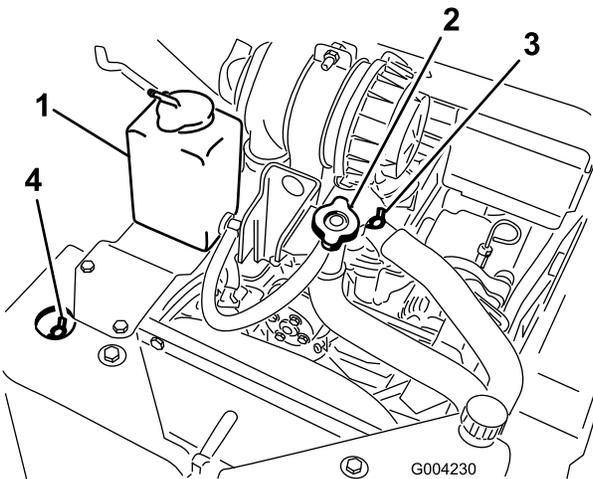

Figure 15
- A. Remove the coolant fill cap (Figure 15).
- B. Open the front and top coolant bleed valves (Figure 15).
- C. Pour coolant into the coolant filler neck until the coolant begins to come out of the front coolant bleed valve (Figure 15).
- D. Close the front coolant bleed valve (Figure 15).
- E. Pour coolant into the coolant filler neck until the coolant begins to come out of the top coolant bleed valve (Figure 15).
- F. Close the top coolant bleed valve (Figure 15).
- G. Pour coolant into the coolant filler neck until the coolant level comes into the filler neck (Figure 15).
- H. Install the coolant fill cap (Figure 15).
- I. Add coolant into the expansion tank until it reaches the Full line on the side of the tank (Figure 15).